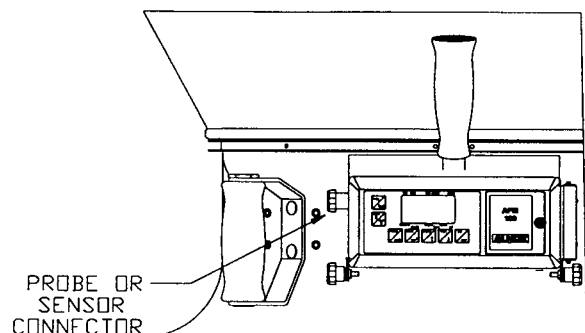

Figure 5—Sensor connector attachment
Step 8: Verify that the sensor connector is attached to the meter. If it is not attached, line up the key as shown in Figure 5 and firmly press the connector into the meter. Tighten the connector by rotating the knurled ring.